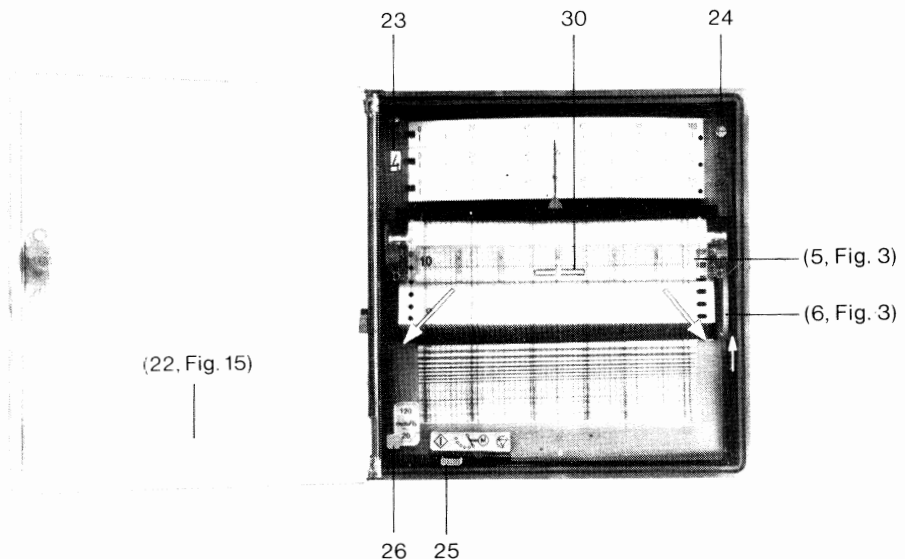

Fig. 16 Motorized Point Recorder with door opened
with the recorder door open, the chart table must be pressed downwards (against the spring pressure) at the points marked with arrows in Fig. 16. The chart table can then be withdrawn forwards.
If the recorder has stopped with the channel indicator (23, Fig. 16) not at channel 1 but, for example, at channel 3, the ink ribbon carrier with the identification number 3 (12, Fig. 4) must be placed in the magazine first. (Identification number must always face upwards.) All the other ink ribbon carriers must then be placed in the magazine in the correct sequence. In this case the sequence is 4, 5, 6, 1 and 2.
Open recorder door and select the required chart speed with the lever (26, Fig. 16) at the front of the recorder. Depending on version, a basic chart speed of 10, 20 or 60 mm/h is possible. This speed can be increased in the ratio 1:6. Chart speed selection can also be done whilst the recorder is running (→ section 2.5.1.).
Using the single channel monitoring lever (25, Fig. 16) stop channel selection at the input channel required as described in section 2.5.1.
- b) The channel being recorded is displayed at the front of the recorder (23, Fig. 16).